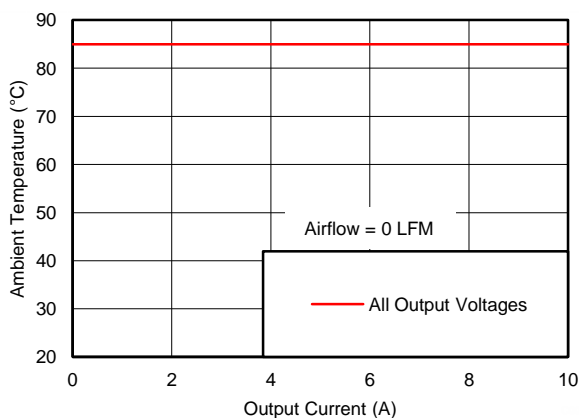

Figure 12. Safe Operating Area
- (2) The temperature derating curves represent the conditions at which internal components are at or below the manufacturer's maximum operating temperatures. Derating limits apply to devices soldered directly to a 100 mm × 100 mm double-sided PCB with 2 oz. copper. Applies to Figure 12.